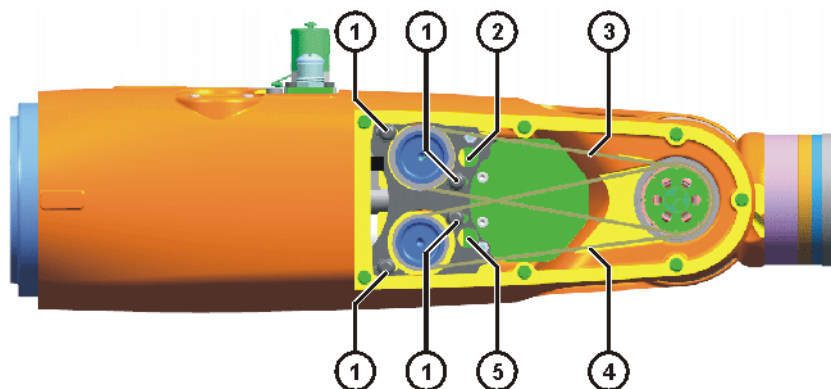

Fig. 10-2: Tensioning the toothed belt – example
2. Slacken 2 M4x10-10.9 fillister head screws on motor A5 (>>> Fig. 10-2).